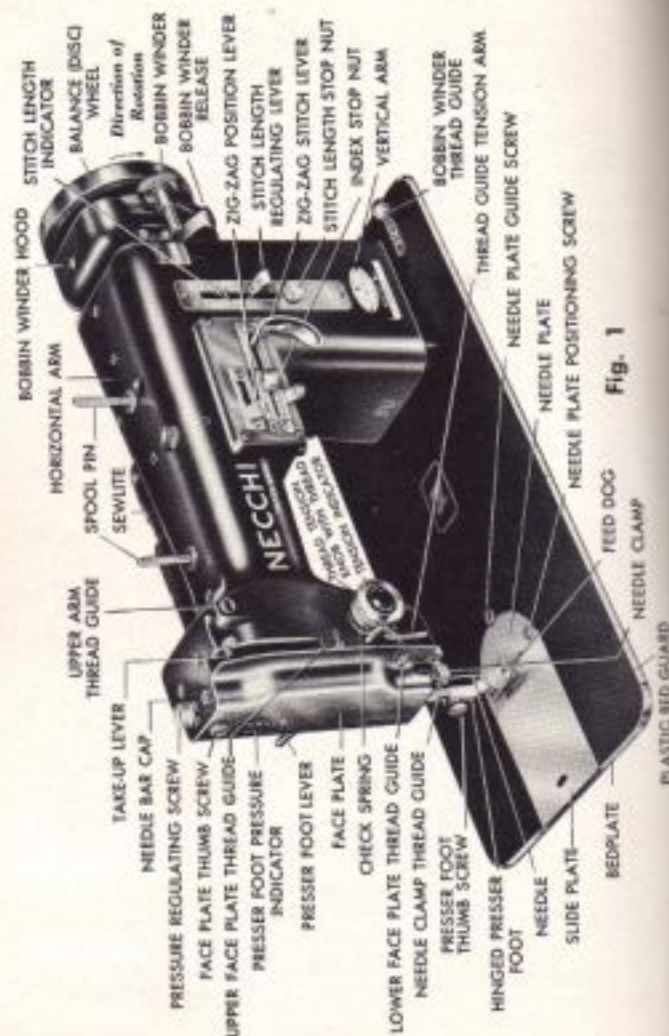

Fig. 1
b. Remove face plate thumb screw (Fig. 1), near upper portion of face plate, remove face plate, and put one drop of oil into each of the oil holes and joints. Replace face plate and tighten thumb screw.
a. Bring needle to its highest position by turning balance wheel toward you (Fig. 1).
a. Raise presser foot by raising presser foot lever (Fig. 1, page 14).
b. Move slide plate (Fig. 1, page 14) to extreme left.
(See Fig. 1, page 14 for reference.)
- a. Bring needle up to its highest position by turning balance wheel toward you (Fig. 1).
- Turn balance wheel (Fig. 1) toward you until take-up lever reaches its highest position.